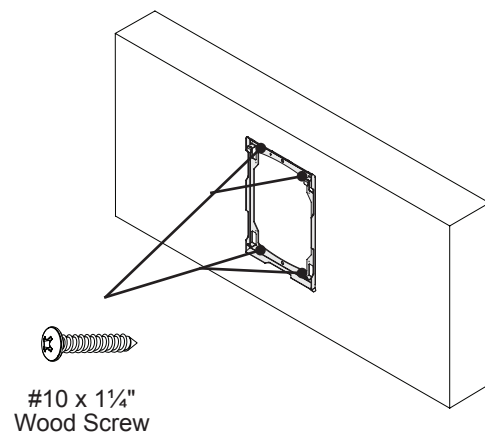

Figure 4
- 8 Insert four (4) #10 x 1¼” wood screws into the corner screw holes to fasten the back plate to the wall (Figure 4).